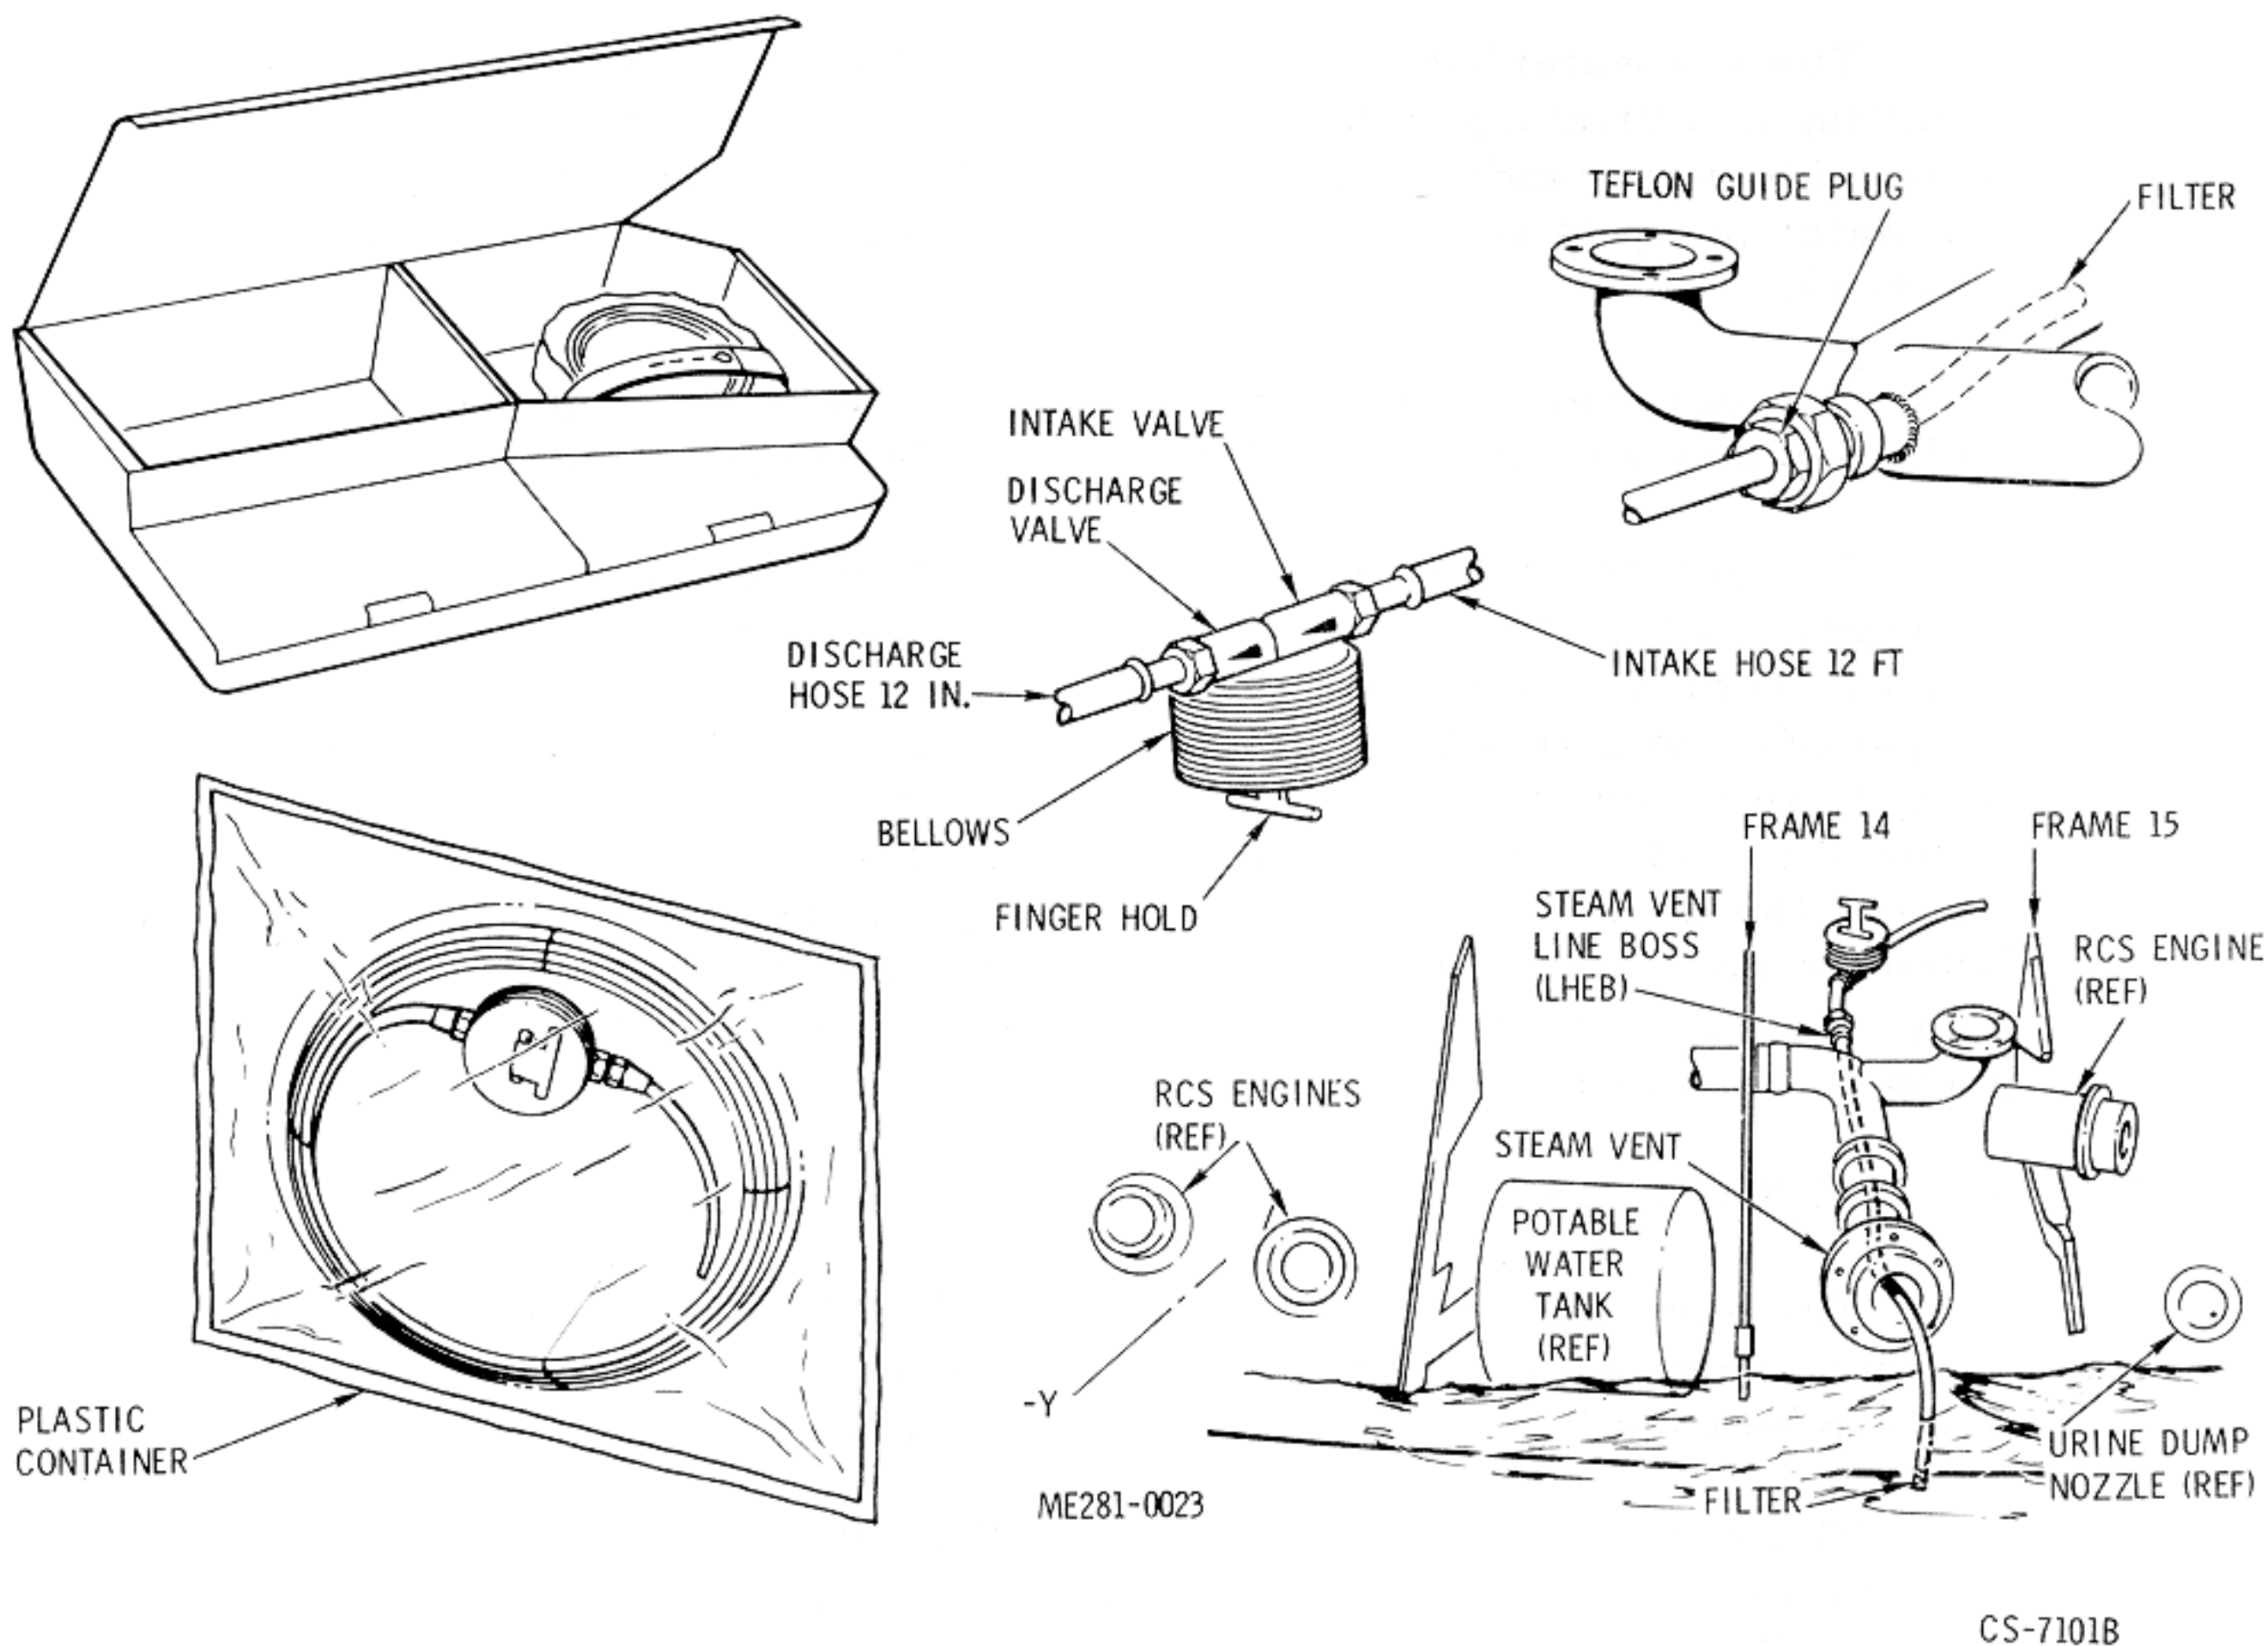

Figure 2.12-53. Sea Water Pump
2.12.9.5 Sea Water Pump (Figure 2.12-53).